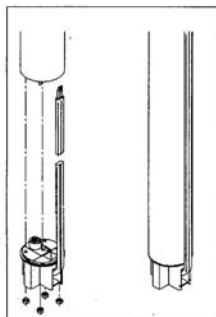

Fig. 6
The plug will only fit one way, see fig. 6.
5. Install and tighten the four nuts, see fig. 6.